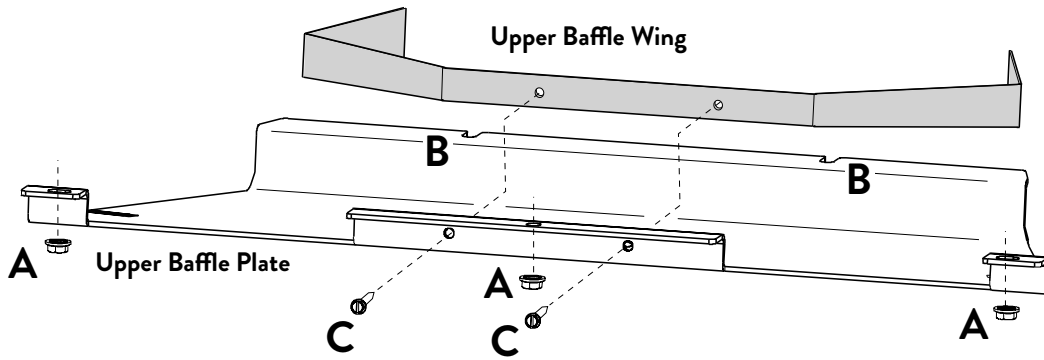

Figure 7.8. Baffle Conversion - Propane Only.
7. LP CONVERSION ONLY: Remove the Upper Baffle Wing from the firebox. See fig. 7.8 below and also fig. 10. 3.
- Remove three 10 mm hex nuts (A) from the front of the Upper Baffle plate.
- Loosen, but do not remove the two 10 mm hex nuts (B) from the rear of the Upper Baffle plate. These are not visible, but you will be able to locate them with your fingers. The baffle plate will drop down enough to enable you to remove the Inner Wing panel from the firebox.
- Remove the two sheet metal screws (C) that secure the Inner Baffle Wing to the center of the Upper Baffle.